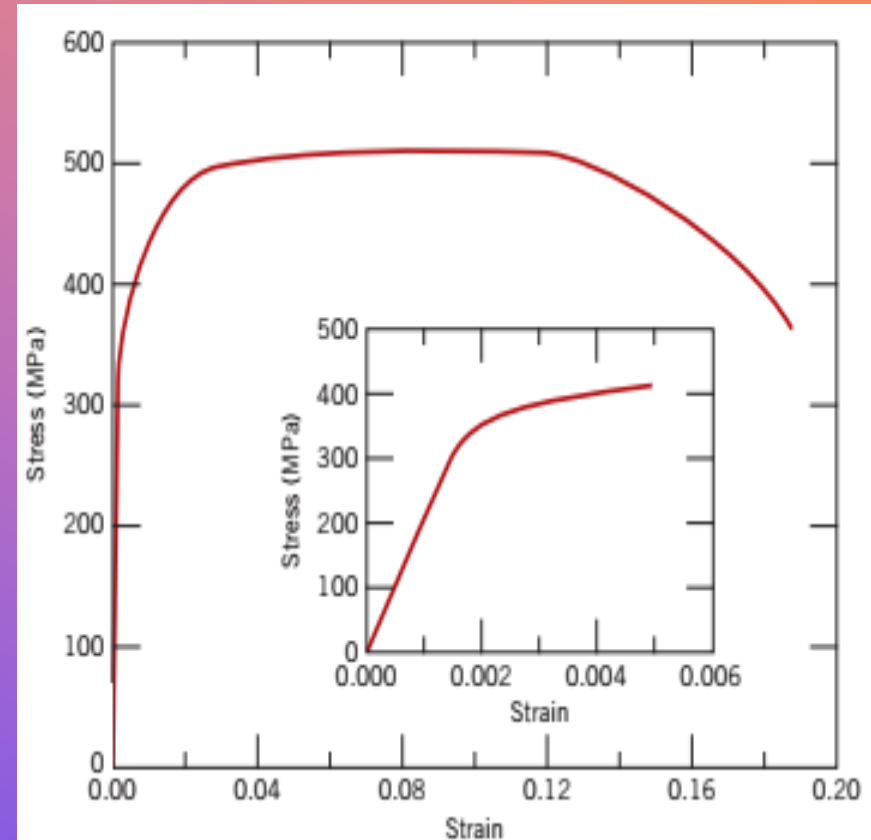

Figure 6.22 Tensile stress–strain behavior for a steel alloy.
- (b) The steel alloy for which the stress–strain behavior is shown in Figure 6.22.